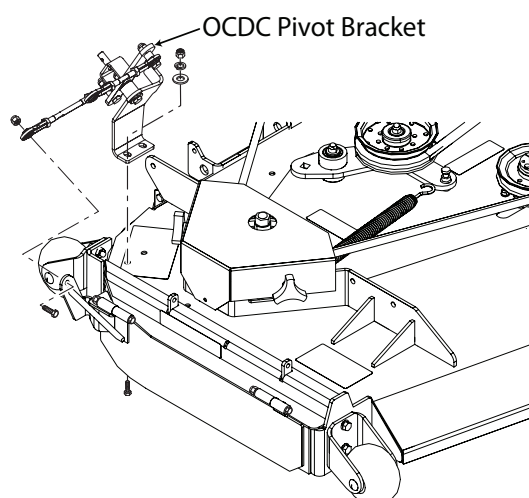

**Figure 3-37. Block Off Plate Weldment Installation**
17. Install the block off plate weldment to the front and rear hinge brackets using two (2) 5/16-18 x 3-1/2" bolts and two (2) 5/16-18 elastic stop nuts. See Figure 3-37. Do not over tighten the bolts completely. Secure the hardware so the block off plate weldment moves freely.